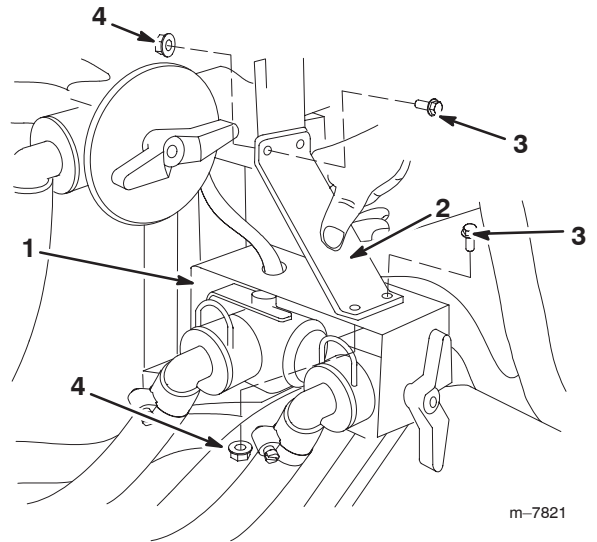

Figure 12
9. Install the supply tee and control valve assemblies to the mounting brackets as shown in Figure 12.
11. Install the support bracket as shown in Figure 12, using 4 flange-head bolts (1/4 x 3/4 inch) and 4 flange nuts (1/4 inch).